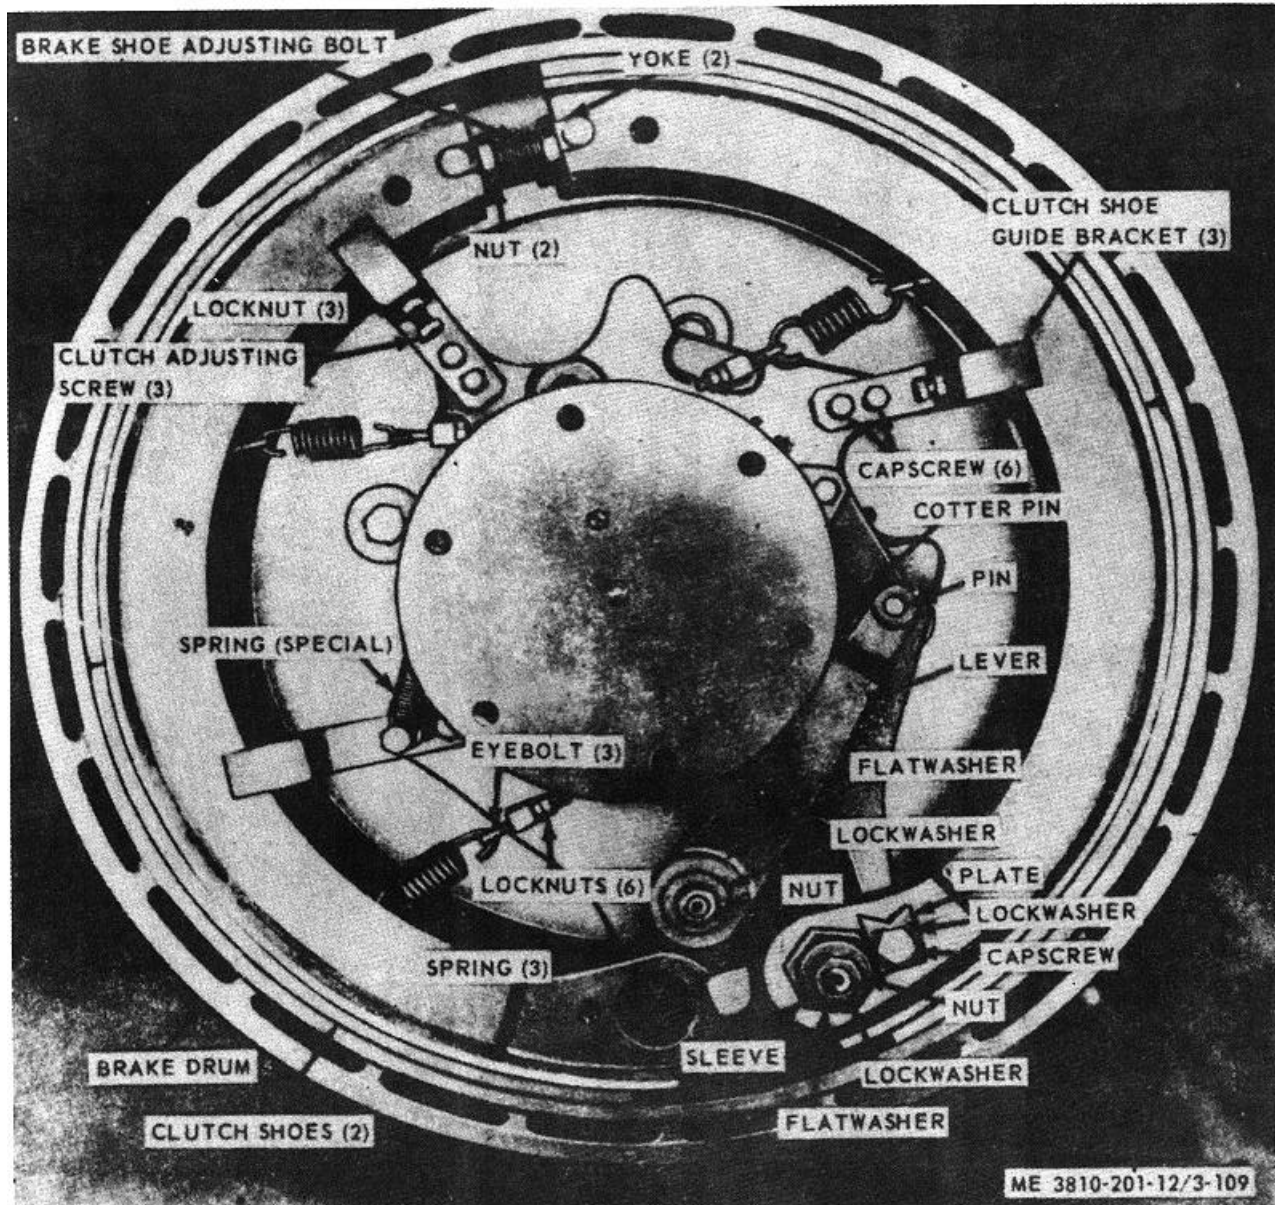

Figure 3-96. Main hoist clutch shoes, removal and installation.
(1) Remove auxiliary clutch hydraulic brake cylinder (para 3-116).
(2) Refer to figure 3-96 and remove main hoist shaft clutch shoes.
(3) Remove remaining clutch shoes in a similar manner.
(4) Install in reverse order.